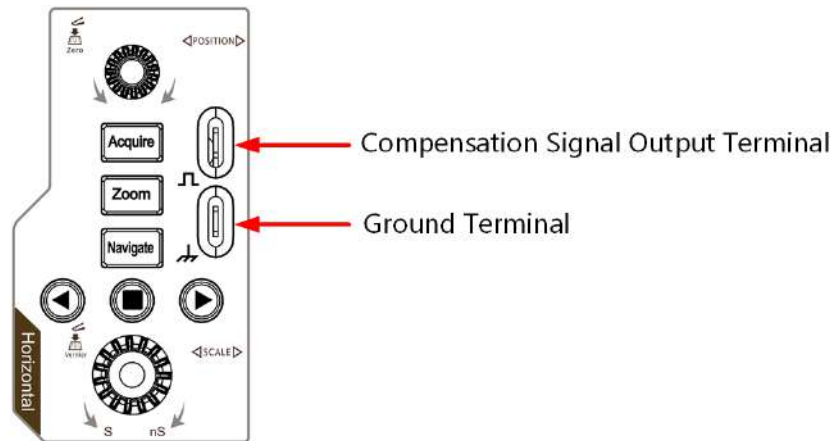

Figure 4.13 Use the Compensation Signal
2. Connect the ground alligator clip of the probe to the "Ground Terminal" as shown in Figure 4.13.
3. Use the probe to connect the input terminal of CH1 and the "Compensation Signal Output Terminal" of the probe, as shown in Figure 4.13.